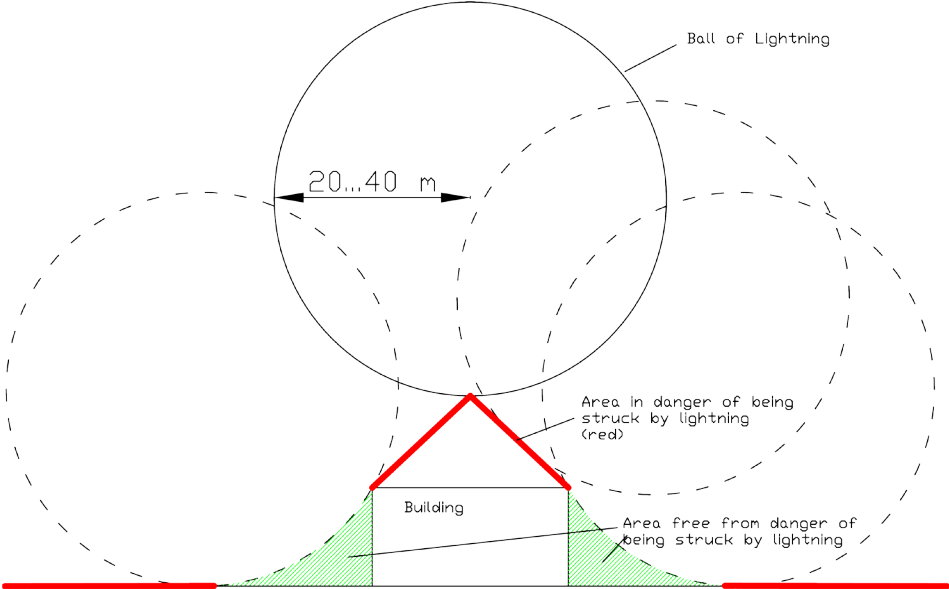
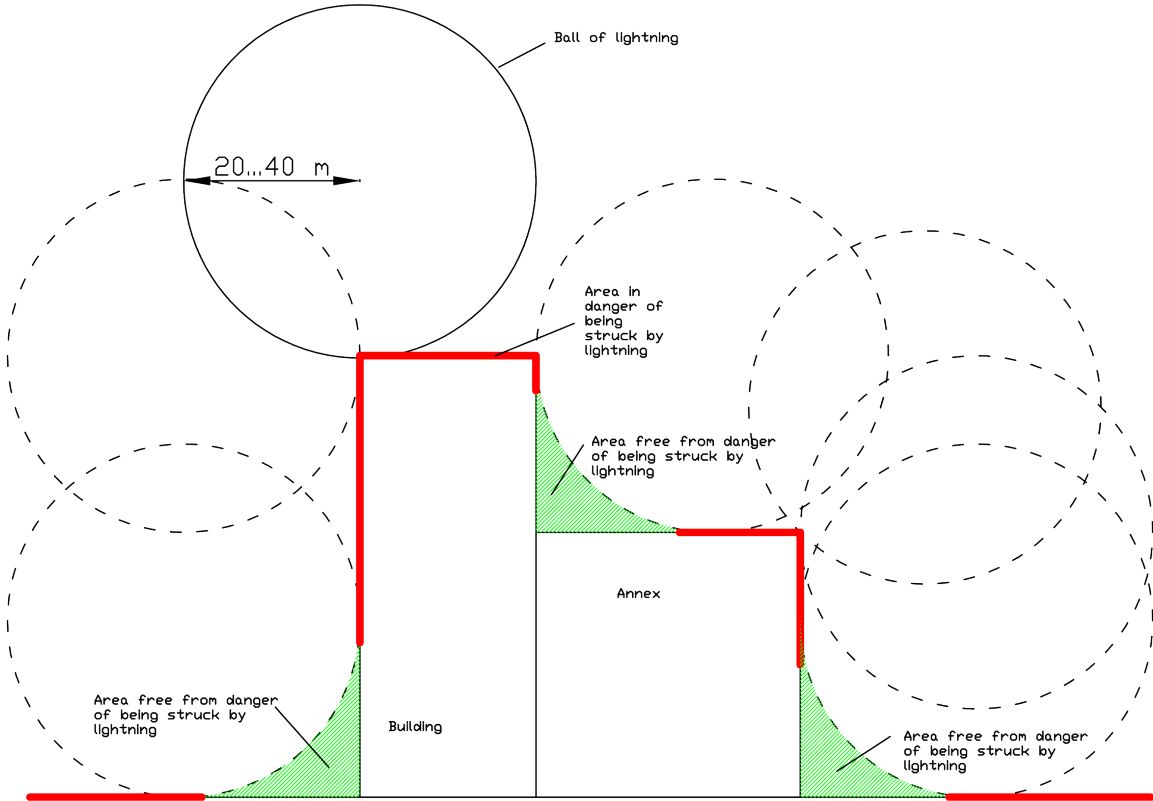

Figure 5: Determination of potential areas where lightning could strike (normal buildings)
Figure 6: Determination of potential areas where lightning could strike (industrial buildings)
Potential areas in danger of being struck by lightning can now be determined in a simple manner by conjuring up a mental picture of the ball of lightning rolling over all the surfaces and edges of the building to be examined (see Figure 5 and Figure 6).
1. **The wireless receiver and antenna cable should always be installed at a distance of at least 2 meters from lightning conductors and areas in danger of being struck by lightning, in conformity with Figure 5 and Figure 6 in the green area - never in the red area)!**